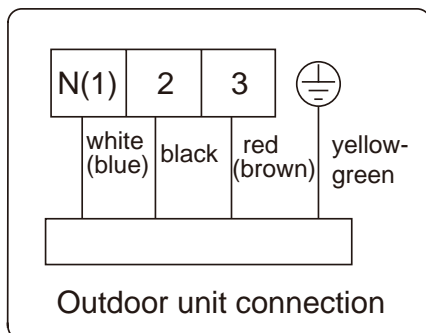

Fig.21
3. Connect the indoor unit connection cord properly based on the corresponding marks as shown in Fig.21.